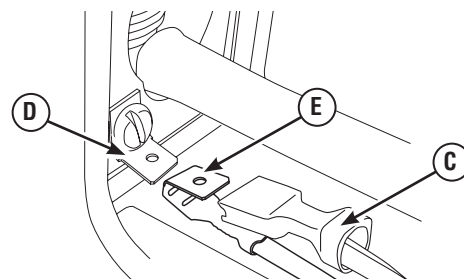

Figure 2 - Contactor Terminal Spade Connections
3. Detach transfer switch wire bundle labeled N1 (Figure 2, C) from spade lug (D) fastened to N1 contactor terminal.
4. Connect piggyback lug end of Wire Assembly A (Figure 2, E) to spade lug (D) on Utility Terminal N1. Attach N1 wire bundle (C) to piggyback lug.
6. Detach transfer switch wire bundle labeled N2 (Figure 2, C) from spade lug (D) fastened to N2 contactor terminal.
7. Connect piggyback lug end of Wire Assembly C (207022CGS, Figure 2, E) to spade lug (D) on Utility Terminal N2. Attach N2 wire bundle (C) to piggyback lug.